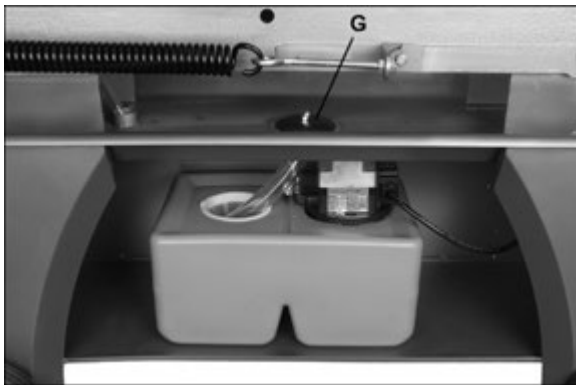

Figure 6-11: Coolant Tank
- Place the filter assembly (G, Figure 6-11) over the drain hole and install the hose under the filter tube.
- Make sure coolant hose is properly connected at each end, and return hose is connected to drain hole and positioned in strainer cup, as shown in Figure 6-11.